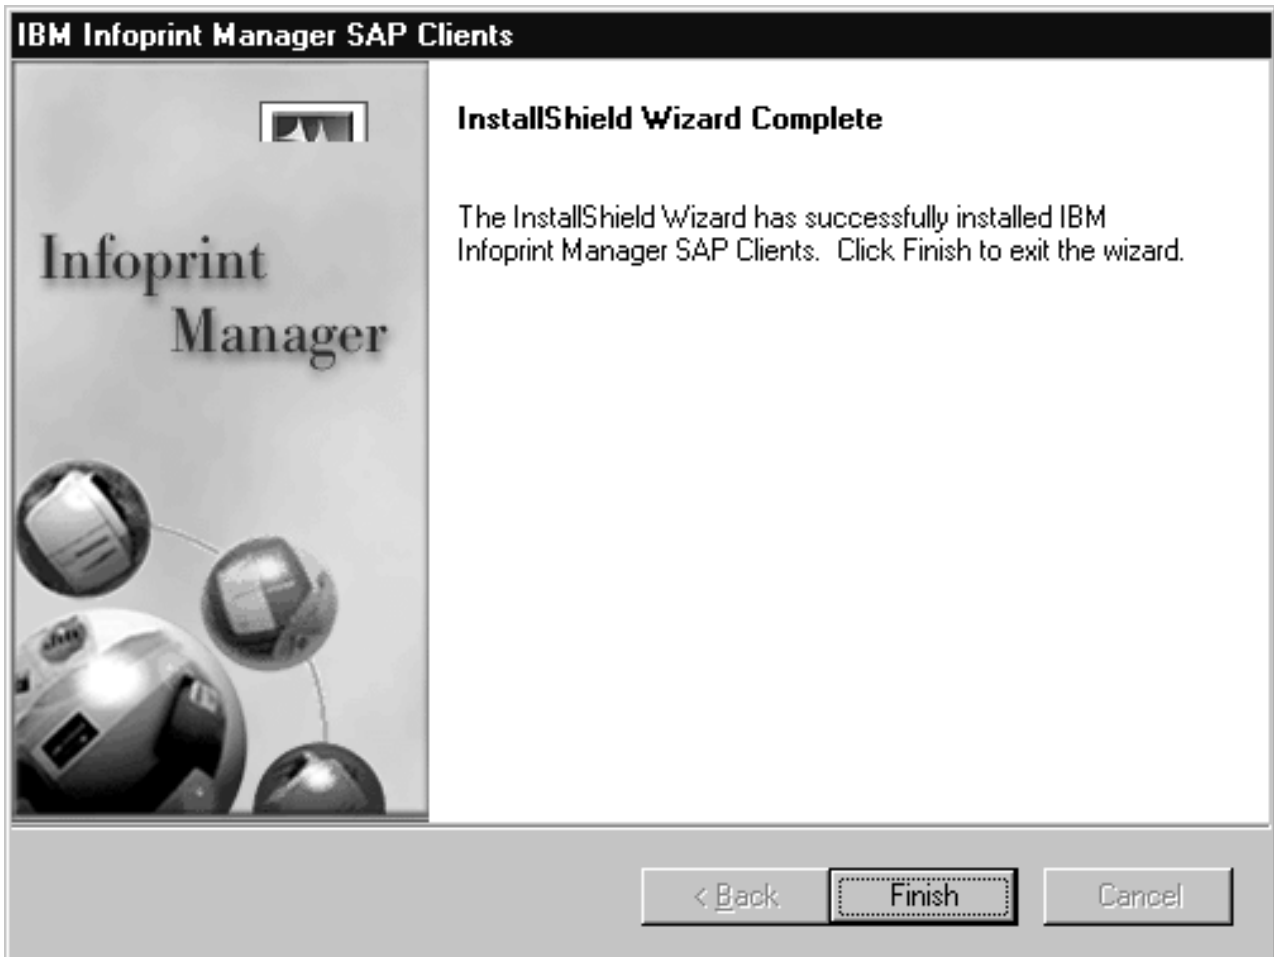

Figure 36. InstallShield Wizard Complete screen after installing SAP Clients on Windows
7. When the SAP client has been installed, click the **Finish** button shown in Figure 36.